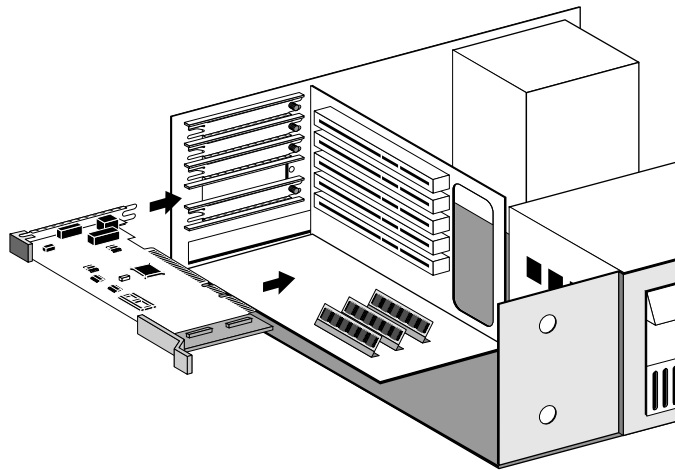

Figure 1-3. Inserting the Adapter
8. **Insert the 3C529 adapter into the 16- or 32-bit expansion slot and secure it with the screw (see Figure 1-3).**